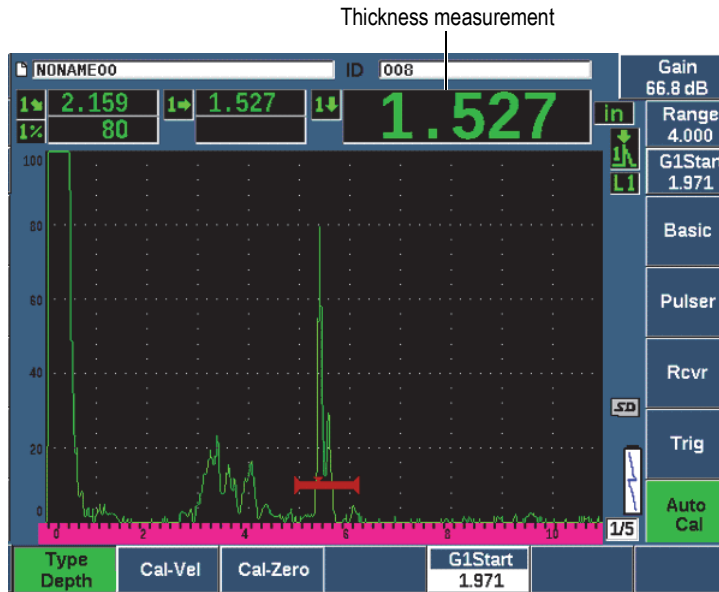

Figure 9-26 Example of a gated signal for zero calibration
4. Use the G1Start button (P5 key) to position gate 1 so that the reflection from the first side-drilled hole is exceeding the gate threshold. This reflection should be close to 12.5 mm (0.5 in.) (see Figure 9-26 on page 189).